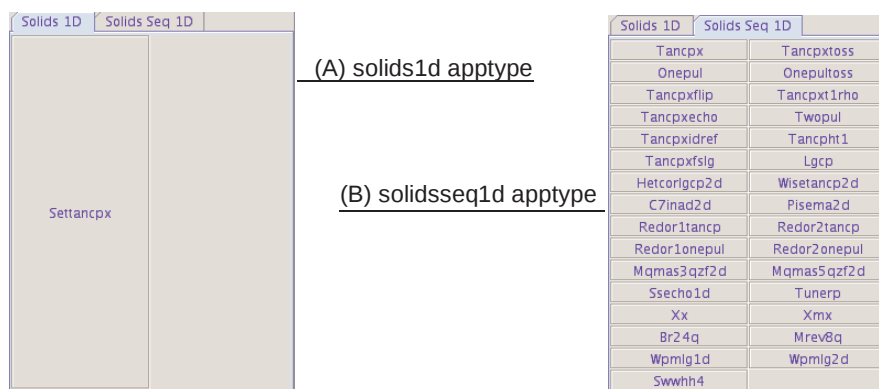

Figure 77. Solids Protocols Tabs
- b. Click on a **Protocol Type** type on the **Experiment Panel**, see Figure 77.